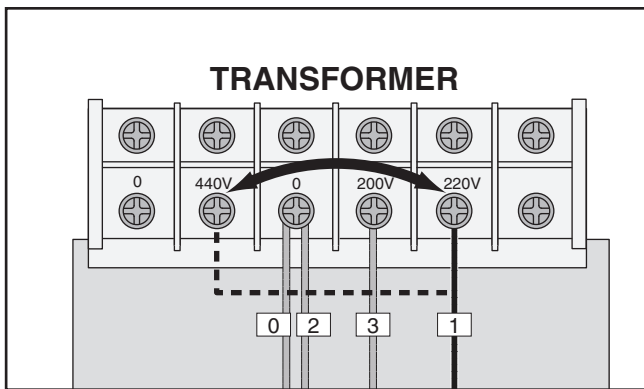

Figure 2. The "1" wire should be connected to the 440V terminal.
3. Remove the wire labeled "1" at the 220V terminal of the control power transformer (**Figure 2**) and connect it to the 440V terminal.